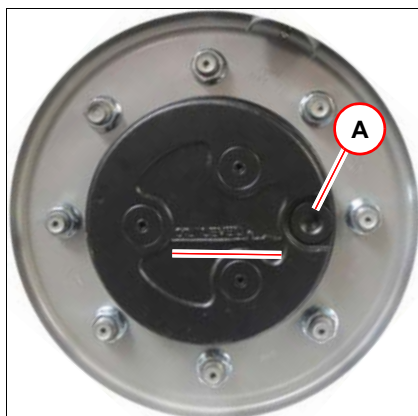

Fig. 141
10. Bring the opening **A** into position as shown in *Fig. 141* (screw must be horizontal).